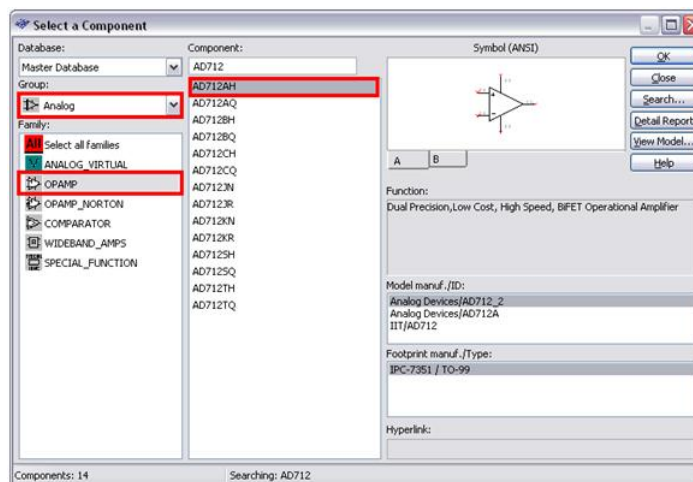

Figure 5. Place an Op-Amp
3. In the Component dialog box (circled in Figure 5), select type AD712 to filter the list of components in the family view.